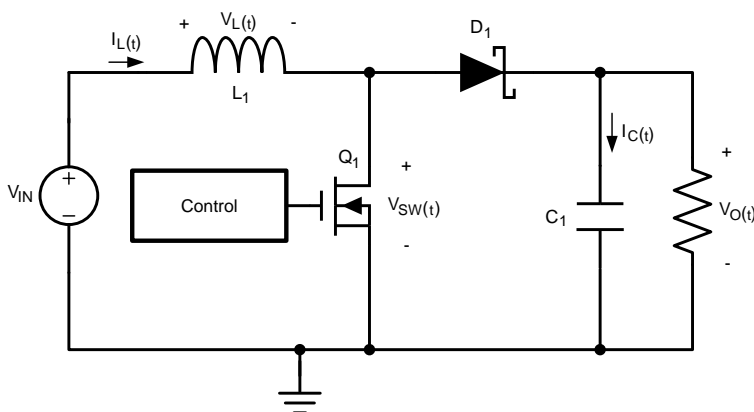

Figure 13. Simplified Schematic
The LM2735 is a constant-frequency PWM boost regulator IC that delivers a minimum of 2.1 A peak switch current. The regulator has a preset switching frequency of either 520 kHz or 1.6 MHz. This high frequency allows the device to operate with small surface mount capacitors and inductors, resulting in a DC-DC converter that requires a minimum amount of board space. The LM2735 is internally compensated, so it is simple to use, and requires few external components. The device uses current-mode control to regulate the output voltage. The following operating description of the LM2735 refers to the simplified internal block diagram (*Functional Block Diagram*), the simplified schematic (*Figure 13*), and its associated waveforms (*Figure 14*). The LM2735 supplies a regulated output voltage by switching the internal NMOS control switch at constant frequency and variable duty cycle. A switching cycle begins at the falling edge of the reset pulse generated by the internal oscillator. When this pulse goes low, the output control logic turns on the internal NMOS control switch. During this on-time, the SW pin voltage (V_{SW}) decreases to approximately GND, and the inductor current (I_L) increases with a linear slope. I_L is measured by the current sense amplifier, which generates an output proportional to the switch current. The sensed signal is summed with the corrective ramp of the regulator and compared to the error amplifier's output, which is proportional to the difference between the feedback voltage and V_{REF} . When the PWM comparator output goes high, the output switch turns off until the next switching cycle begins. During the switch off-time, inductor current discharges through diode D1, which forces the SW pin to swing to the output voltage plus the forward voltage (V_D) of the diode. The regulator loop adjusts the duty cycle (D) to maintain a constant output voltage .